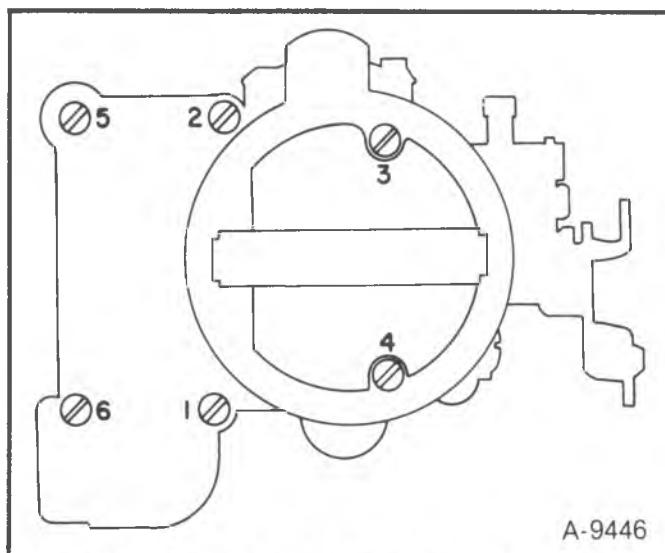

Figure 38 – Air Horn Screw Location and Tightening Sequence
(Figure 38)
1. Connect bowl side vacuum break assembly (65) to vacuum break link (69A).
3. Install air horn to float bowl (vacuum break attaching) screws (111).
- Tighten all air horn to float bowl screws (in sequence shown in Figure 38.)